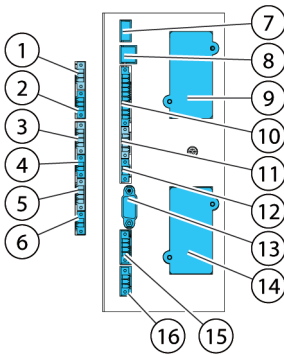
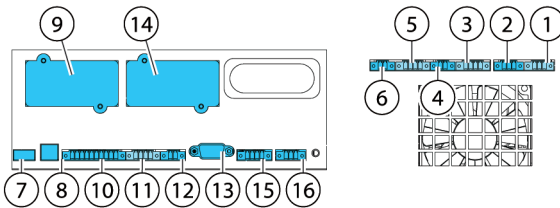

Figure 22. Communication interfaces in the 93PS UPS 20 kW standard and C-model frames
Figure 23. Communication interfaces in the 93PS UPS 40 kW frame
2. Terminal blocks TB6, TB7 and TB8 are for external parallel control signals (see Figure 22 and Figure 23).